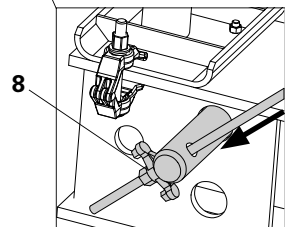

Fig. 20
3. Tighten the diagonal bracing (6) after every lowering procedure by means of the cam nuts (8). (Fig. 20)
4. Tighten the diagonal bracing (6) after every lowering procedure by means of the cam nuts (8). (Fig. 20)